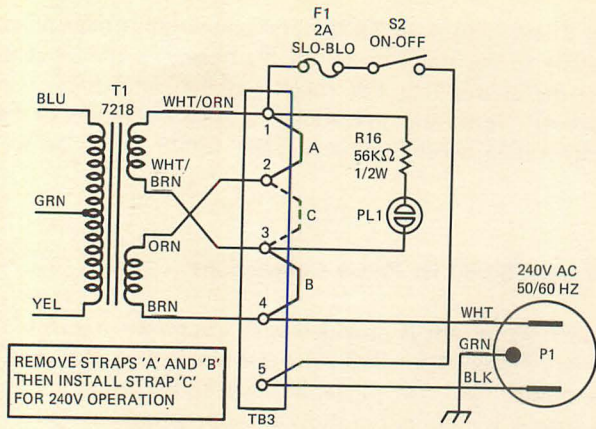

Figure 5. Converting to 240V ac, 50/60 Hz Operation
- Step 3. Remove strap "A" connecting terminals 1 and 2 and remove strap "B" connecting terminals 3 and 4; solder strap "C" to terminals 2 and 3 (see Figure 5).